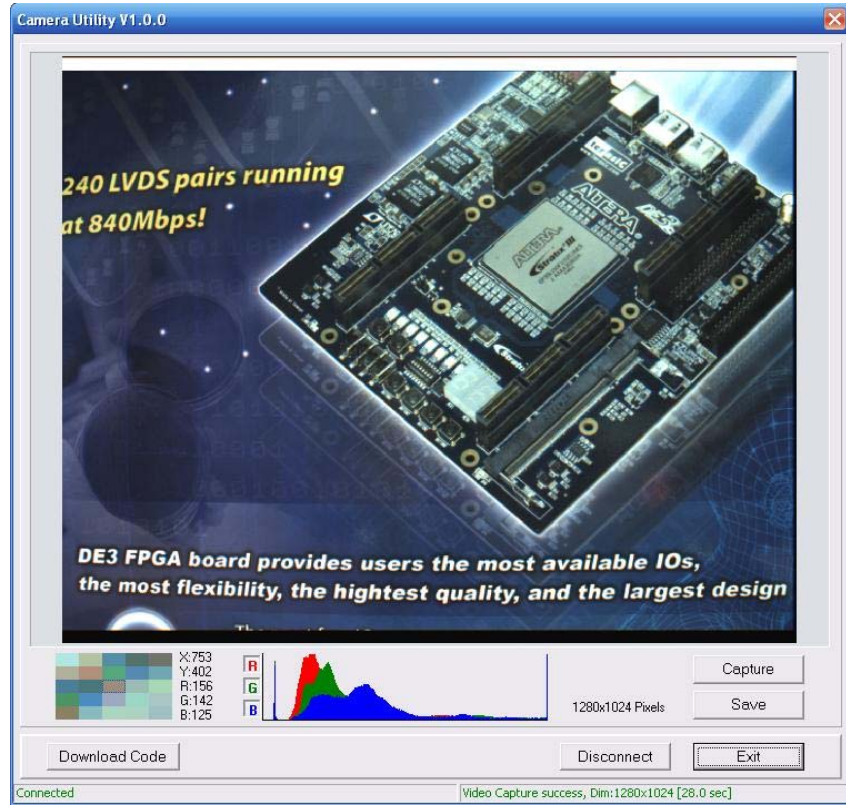

Figure 3.3. The DE2\_70\_camera tool
12. Users can upload the captured image to PC by clicking the 'Capture' button of the 'DE2\_70\_CAMERA.exe' as shown in Figure 3.3. Meanwhile, the digital camera is set to photo-taking mode. Press **KEY3** to switch back to FREE RUN mode.